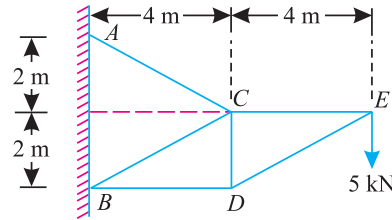

Fig. 14.27.
**Example 14.11.** A truss shown in Fig. 14.27 is carrying point load of 5 kN at E.